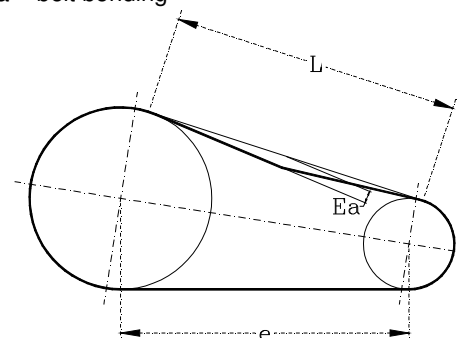

Fig.1 (Belt-Drive scheme)
Belt displacement  $E_a$  (see scheme in fig.1) must be calculated according to the formula (1) and the values mentioned in table 1 in the Appendix: